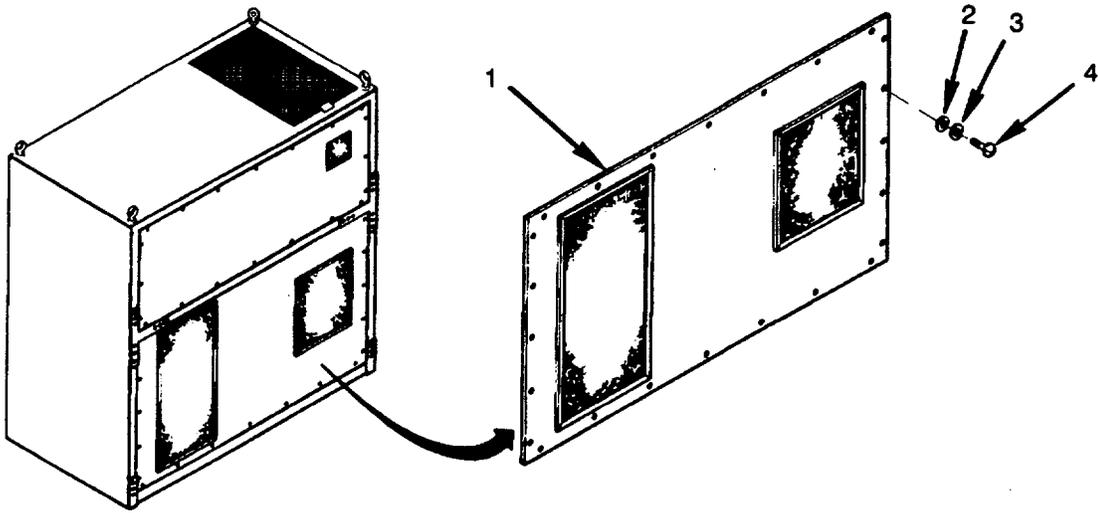

Figure 4-13. Rear Condenser Panel Installation
- a. Install Rear Condenser Panel. Position panel (1) and install 42 screws (4), lockwashers (3), and flat washers (2) (see Figure 4-13).